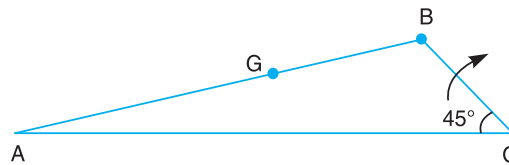

Fig. 8.38
1. The engine mechanism shown in Fig. 8.38 has crank $OB = 50 \text{ mm}$ and length of connecting rod $AB = 225 \text{ mm}$. The centre of gravity of the rod is at G which is 75 mm from B . The engine speed is 200 r.p.m.